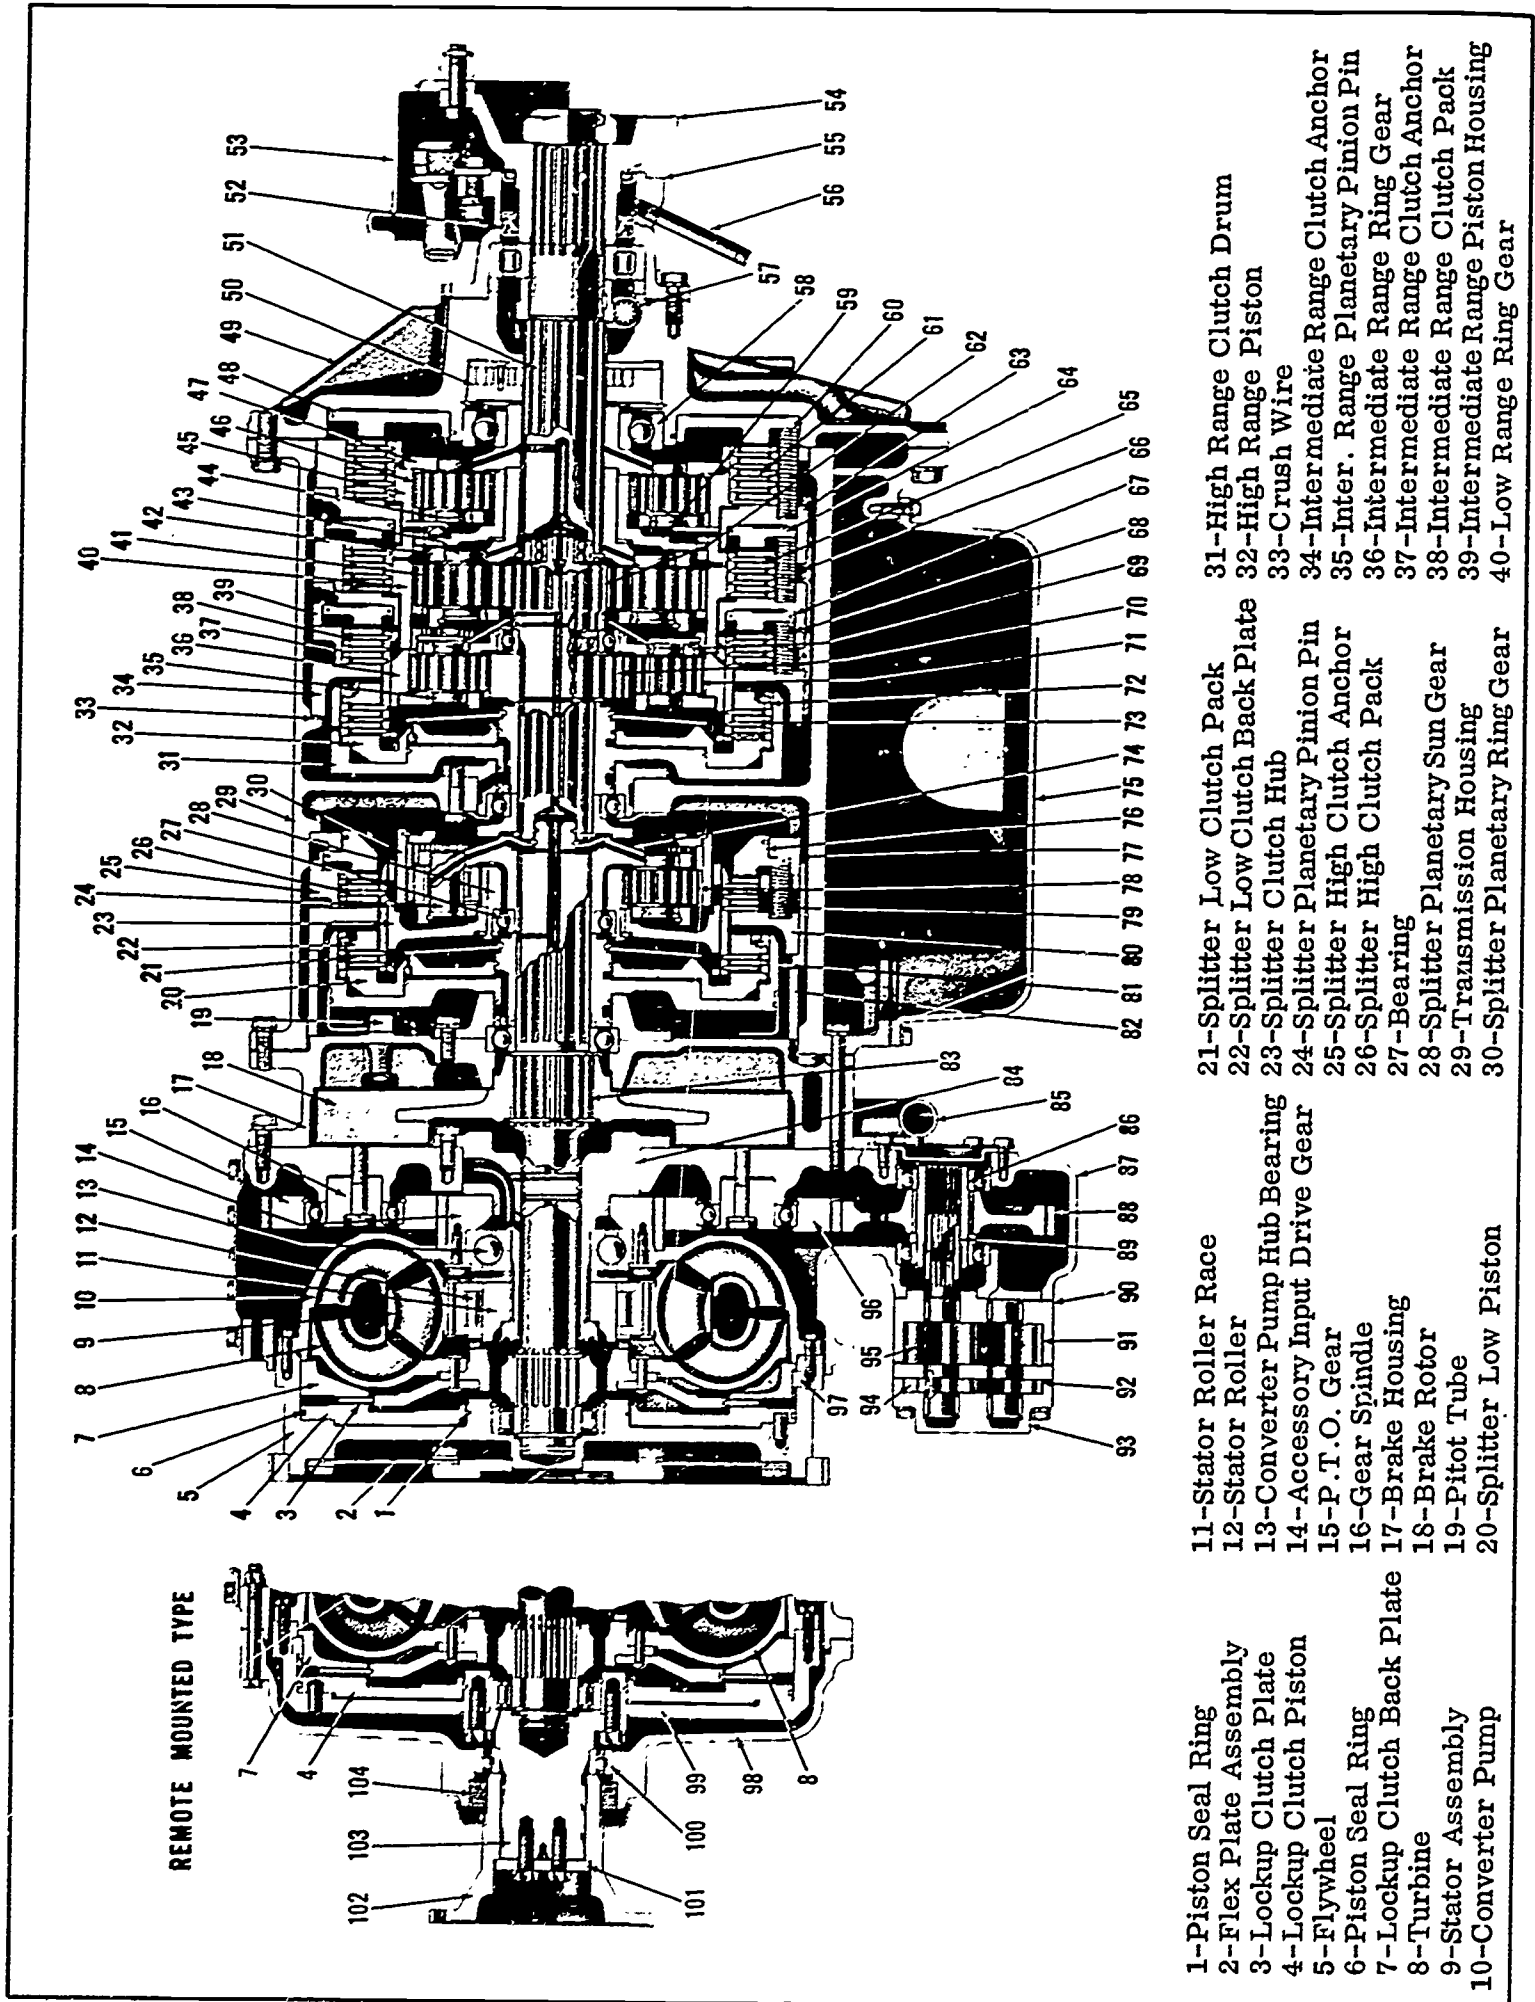

Fig. 1 Cutaway view of CLBT-5960 transmission
NOTE: For the following reference numbers, refer to Figure 1.
Key to Figure 1 (cont'd.)
In Figure 1, the optional remote mounting-feature is shown. If the transmission is direct mounted, the torque converter housing is bolted directly to the engine flywheel housing. For a remote mounting, the converter input shaft (103) is bolted to the piston housing (99) and the converter front cover (98) encloses the front of the converter. Engine torque is received through the companion flange (102) which is splined to the converter input shaft.
NOTE: All numbers in the following paragraphs refer to Figure 1 unless otherwise specified.